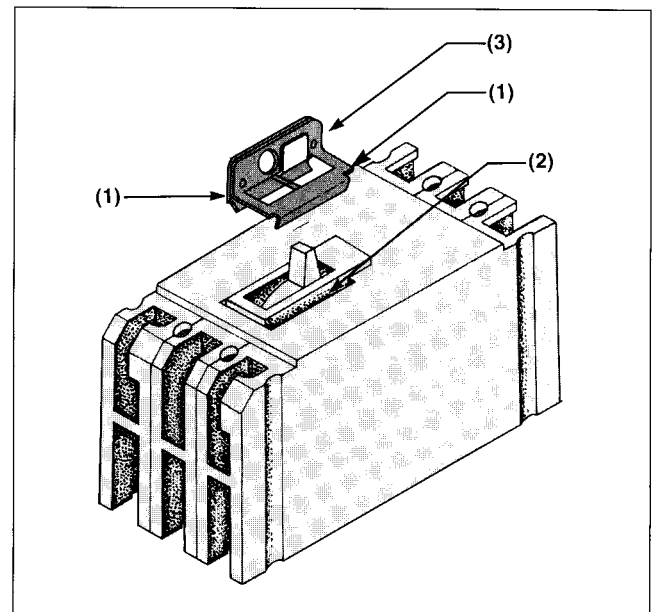

Figure 3
Assemble padlocking device to breaker by placing it over breaker handle (Figure 3). Position tabs (1) into slots (2) on either side of pad (Figure 4); tighten screws (3) to secure padlocking device.